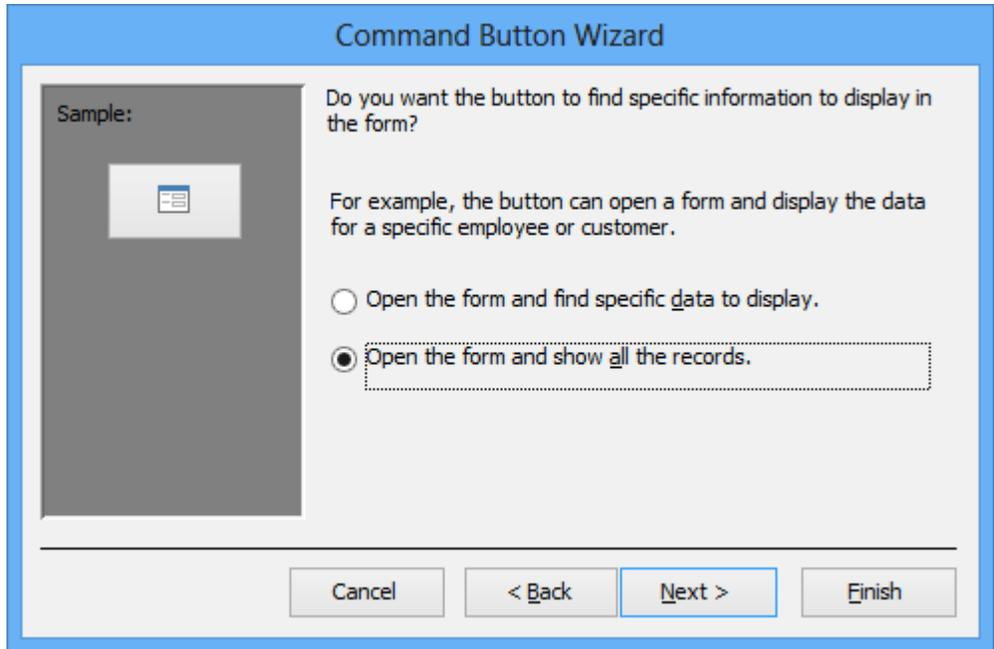

Figure 22: Third Window of the Command Button Wizard
12. Show Form Records: The third wizard window asks if a specific record is to be shown when the form is open or if all records will be available. Select the second choice (Figure 22), “Open the form and show all the records”, and click **Next**.